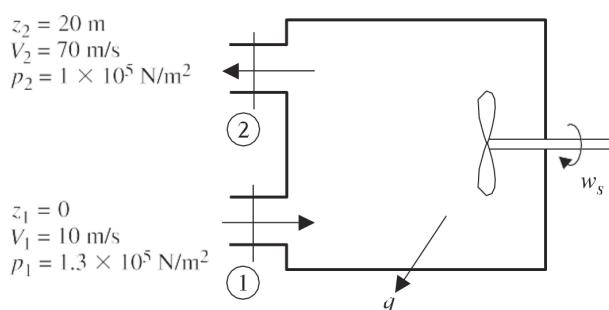

Figure P2.15
**2.15** The control volume shown in Figure P2.15 has steady, incompressible flow and all properties are uniform at the inlet and outlet. For  $u_1 = 1.256$  MJ/kg and  $u_2 = 1.340$  MJ/kg and  $\rho = 10$  kg/m3, calculate the work if there is a heat output of 0.35 MJ/kg.